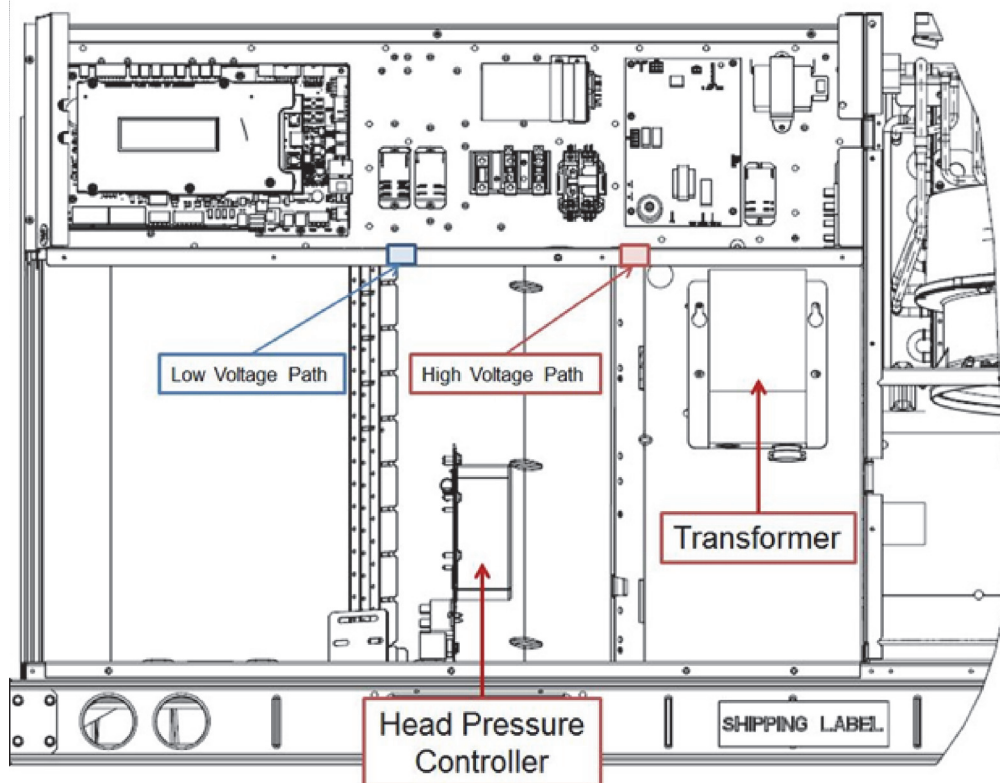
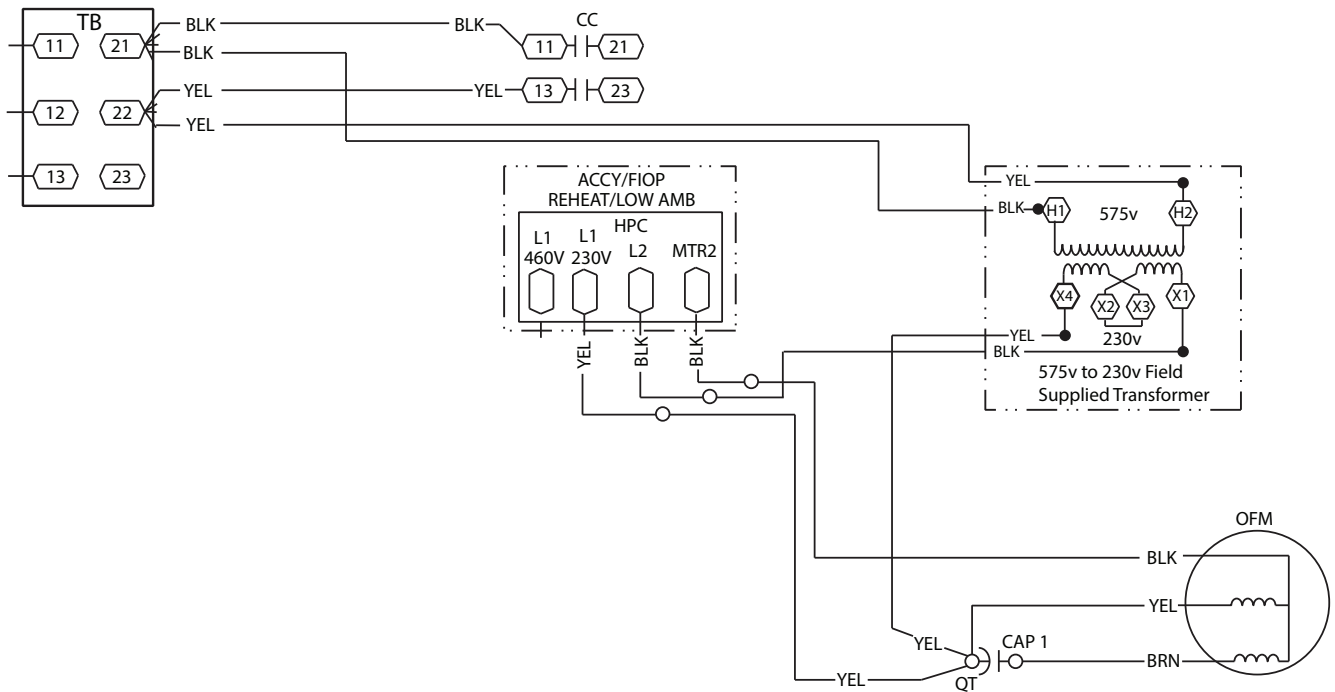
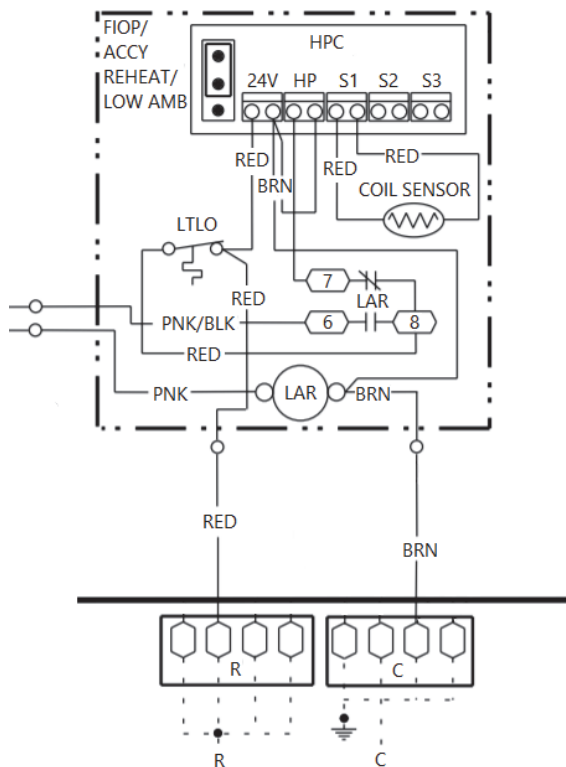

Fig. 4 — Controller and Transformer Installation Locations
Fig. 5 — Wiring Diagram for 48/50FC, 582K/559K, RGV/RAV Units (575-v)
Fig. 11 — Controls Wiring Diagram for 48/50FC, 582K/559K, RGV/RAV Units
7. Install the controller assembly in the location shown in Fig. 4. Connect the black motor wire's female quick connect to the black wire on the controller's harness attached to the controller's "MTR2."
2. Install transformer HT01AH856 (0.75kva, 575v to 230v) or equivalent field-supplied transformer. For transformer and controller locations, refer to Fig. 4. See Fig. 5 or 6 for connections.
3. Connect a field-supplied black wire from terminal block 21 in the control box to the transformer H1 termination, as shown in Fig. 5 or 6.
4. Connect a field supplied yellow wire from terminal block 22 in the control box to the transformer H2 termination as shown in Fig. 5 or 6.
6. Disconnect the yellow wire from compressor contactor terminal 23 (See item C1 in Fig. 7) and connect to transformer X4 termination using a field supplied wire. (See Fig. 5 or 6.)
2. Use high voltage harness 48TCHSRATHHA10 for all units (see Fig. 2). Route harness into control box. (See Fig. 4.) BLK3 is not used in 48/50FC/FCQ, 582K/559K/547K, or RGV/RAV/RHV units because the motor's black wire connects directly to the controller rather than to a relay. (See Fig. 8, 9, and 10 for connections.)
1. Use low voltage harness 48TCHSRATHHA00 provided in kit for all units (see Fig. 3). Route harness into control box. (See Fig. 4) (Fig. 11 and 12 for connections.).
7. Install the controller assembly in the location shown in Fig. 4.
2. Install transformer HT01AH856 (0.75kva, 575v to 230v) or equivalent field-supplied transformer. For transformer and controller locations. (See Fig. 4.) See Fig. 7 and 17 or 18. for connections.
2. Use high voltage harness 48TCHSRATHHA10 for all units (see Fig. 2). Route harness into the control box through the high voltage path (see Fig. 4).
1. Using low voltage harness 48TCHSRATHHA00 for all units (see Fig. 3). Route harness into control box (see Fig. 4). See Fig. 23 and 24 for connections.)